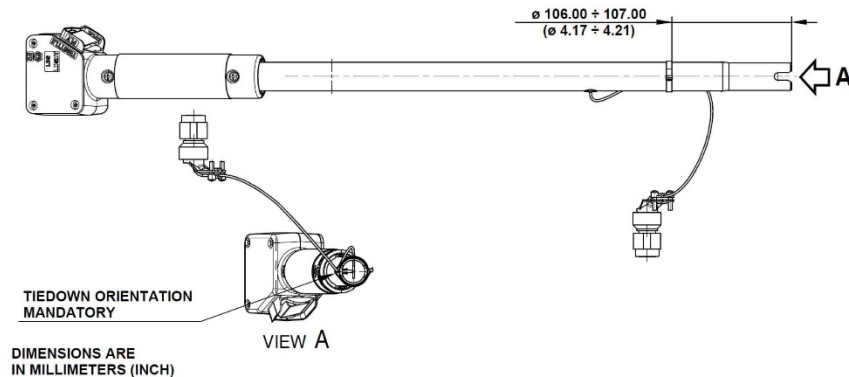

Figure 24 – Tie-down strap position and cable orientation
MAKE SURE THAT CABLE ORIENTATION IS AS SHOWN IN VIEW A OF Figure 24.
30. Install tie-down strap (1) to lock cable to stick tube (6) as shown in Figure 24.